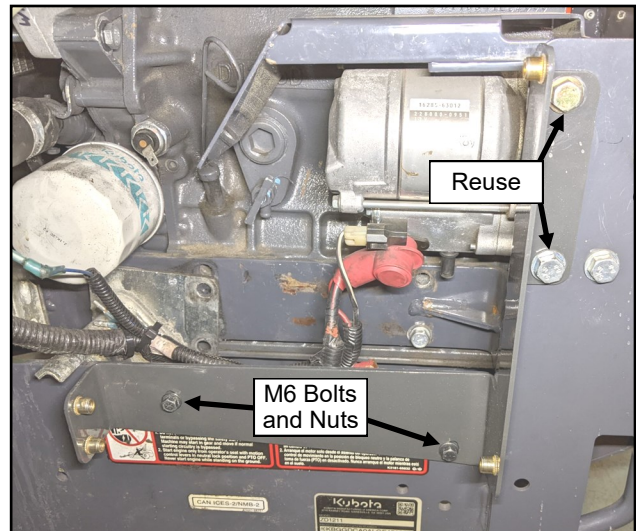

Fig. 1.7 (Install shroud mounting bracket)
- 1.7 See fig. 1.7. Remove and reuse two OEM bolts and install the shroud mounting bracket. Secure the bottom of the bracket with two M6 bolts and two M6 nuts.